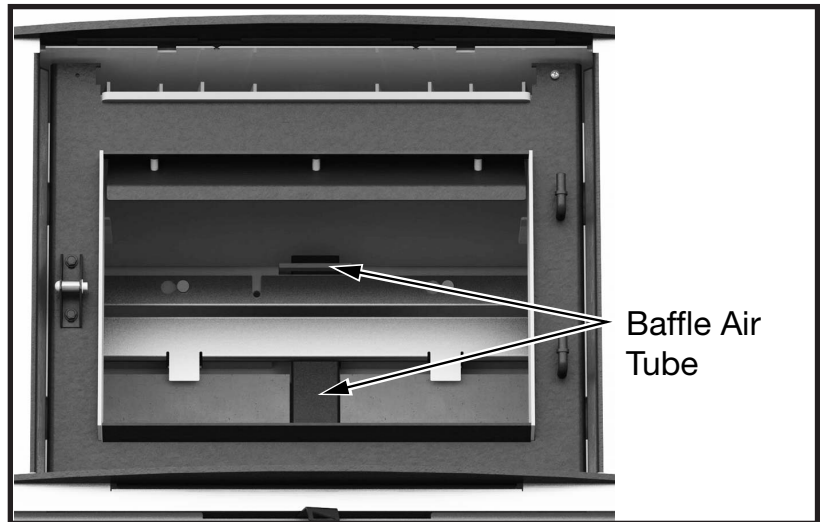

Figure 1: Baffle Air Tube.
1. Remove retaining pin located just beneath the baffle at the rear inside top of the firebox (Figure 1).